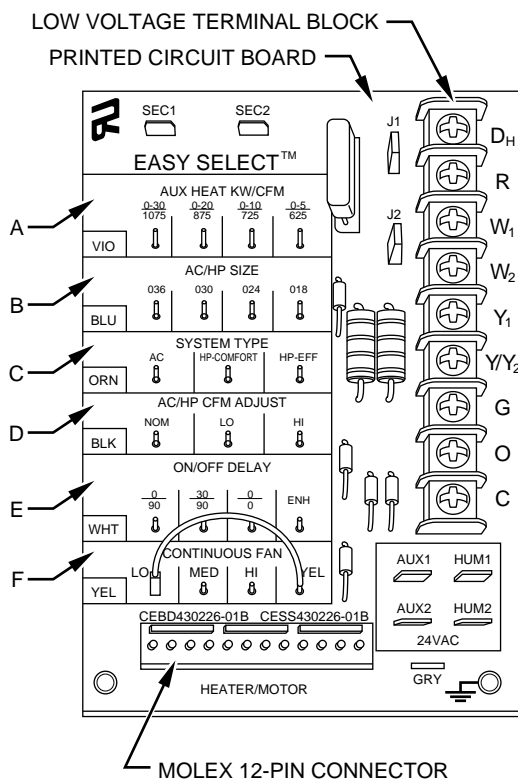
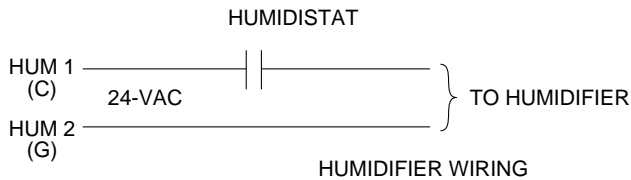

Fig. 17—Detail of FK4C Printed-Circuit Board
Fig. 21—Humidifier Wiring
The EASY SELECT taps are used by the installer to configure a system. The ICM2 uses the selected taps to modify its operation to a pre-programmed table of airflows. Airflows are based on system size or mode of operation and those airflows are modified in response to other inputs such as the need for de-humidification. (See Fig. 17 and 18.)
The installer must select the auxiliary heat airflow approved for application with the kw size heater installed. If no heater is installed, this step can be skipped. Each select pin is marked with a range of heaters for which the airflow, also marked, is approved. The heater installed must fall within the range selected for safe and continuous operation. It is appropriate to mention that the airflow marked is that airflow which will be supplied in emergency heat mode and heating mode on air conditioners when electric heat is the primary heating source. In heat pump heating mode when the electric heaters are energized, the ICM2 will run the higher of the heat pump heating airflow and the electric heater airflow to ensure safe heater operation. The factory selection is the largest heater range approved. (See Fig. 17, A as indicated.)
The factory setting for air conditioner or heat pump size is the largest unit meant for application with the model of fan coil purchased. The installer needs to select the air conditioner or heat pump size to ensure that airflow delivered falls within proper range for the size unit installed. This applies to all operational modes with the exception of electric heat modes. (See Fig. 17, B as indicated.)
The factory setting is AC. (See Fig. 17, C as indicated.)
To provide airflow at the rates described above, the AC/HP ADJUST select is factory set to the nominal (nom) tap. The adjust selections HI/LO will regulate airflow supplied for all operational modes, except non-heat pump heating modes, +15% and -10% respectively. The adjust selection options are provided to adjust airflow supplied to meet individual installation needs for such things as noise, comfort, and humidity removal. (See Fig. 17, D as indicated.)
Four motor operation delay profiles are provided to customize and enhance system operation. (See Fig. 17, E as indicated)
3. HI speed — move connector of HI, 100% cooling mode airflow. (See Fig. 17, F as indicated.)
Because the ICM2 blower motor used in the FK4C fan coil is controlled by low-voltage signals, a switched 230vac electronic air cleaner power signal is not available. This signal is replaced by a 24vac signal which is provided at PCB terminals AUX1 and AUX 2 (See Fig. 17 and 18.) This signal is present whenever the G thermostat signal is present (heat pump heating, cooling and continuous blower modes). When the FK4C fan coil is installed with an electronic air cleaner, use EAC relay kit KFAIR0201ACR or a field supplied 24vac relay.
Terminals HUM1 and HUM2 are provided for direct connection to the low-voltage control of a humidifier through a standard humidistat. (See Fig. 17.) These terminals are energized with 24vac whenever G thermostat signal is present. (See Fig. 21.) Alternately, the 24vac signal may be sourced from the W and C terminal block connections.